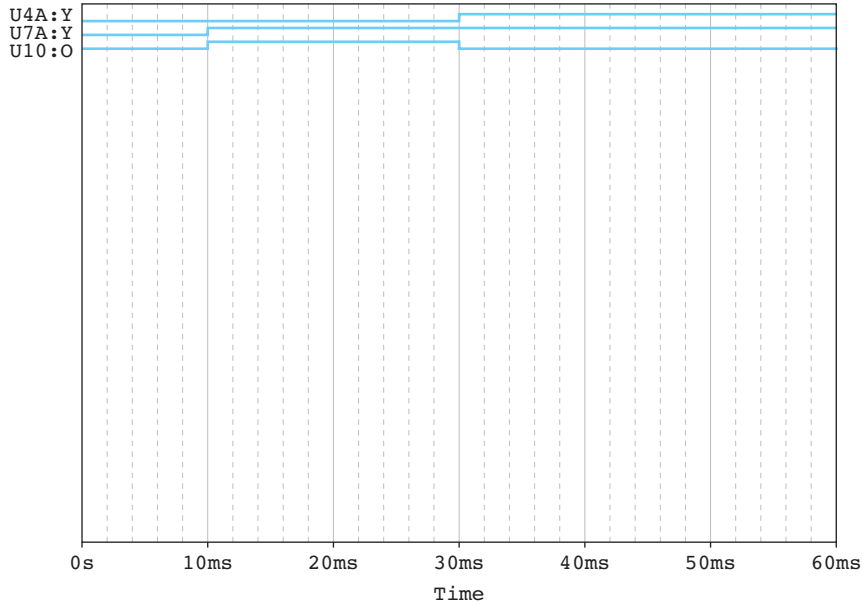

FIGURE 10.66 Digital output of Example 10.22 Part (b).
- The simulation plot is shown in Figure 10.66. Notice that there are only two values for each output. The one with higher level is 1 while the lower level is 0.